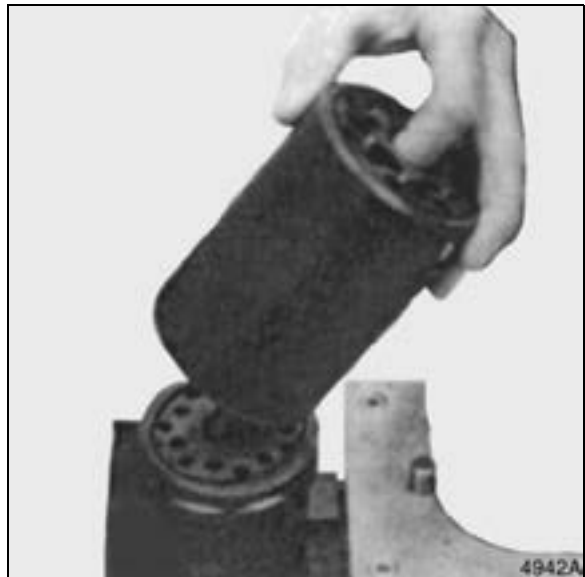

Figure 12
4. Lift cylinder gear off unit. See Figure 12. Remove two O-rings.